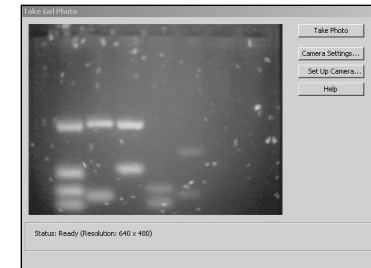

Figure 3: Take Gel Photo dialog box
2. Choose Gel Analysis from the Insert menu, then choose Take Photo. A dialog box with a live picture from the ProScope, as shown in Figure 3, should appear.
to the well of the first experimental lane and click. Take a moment to notice that when you click, three things happen: a marker with a distinct shape and color was placed on the photo, a matching marker was placed on the graph, and the distance and number of base pairs is added to the data table as shown in Figure 3.